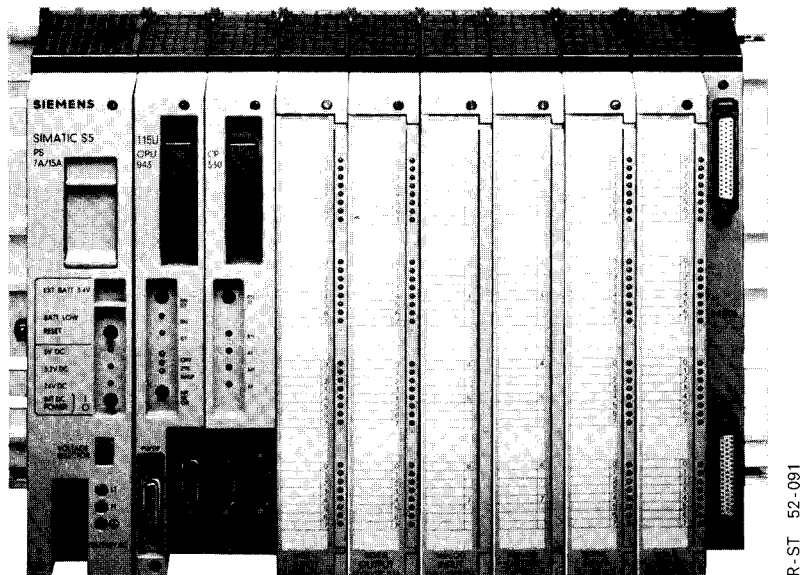

Figure 3-1. Central Controller (Example)
3.1.1 Central Controller (CC)
A central controller has a power supply module (PS), a central processing unit (CPU), and various input/output modules (I/Os). Depending on requirements, digital or analog modules, communications processors (CPs), or intelligent input/output modules can be used. Figure 3-1 shows a basic CC configuration.